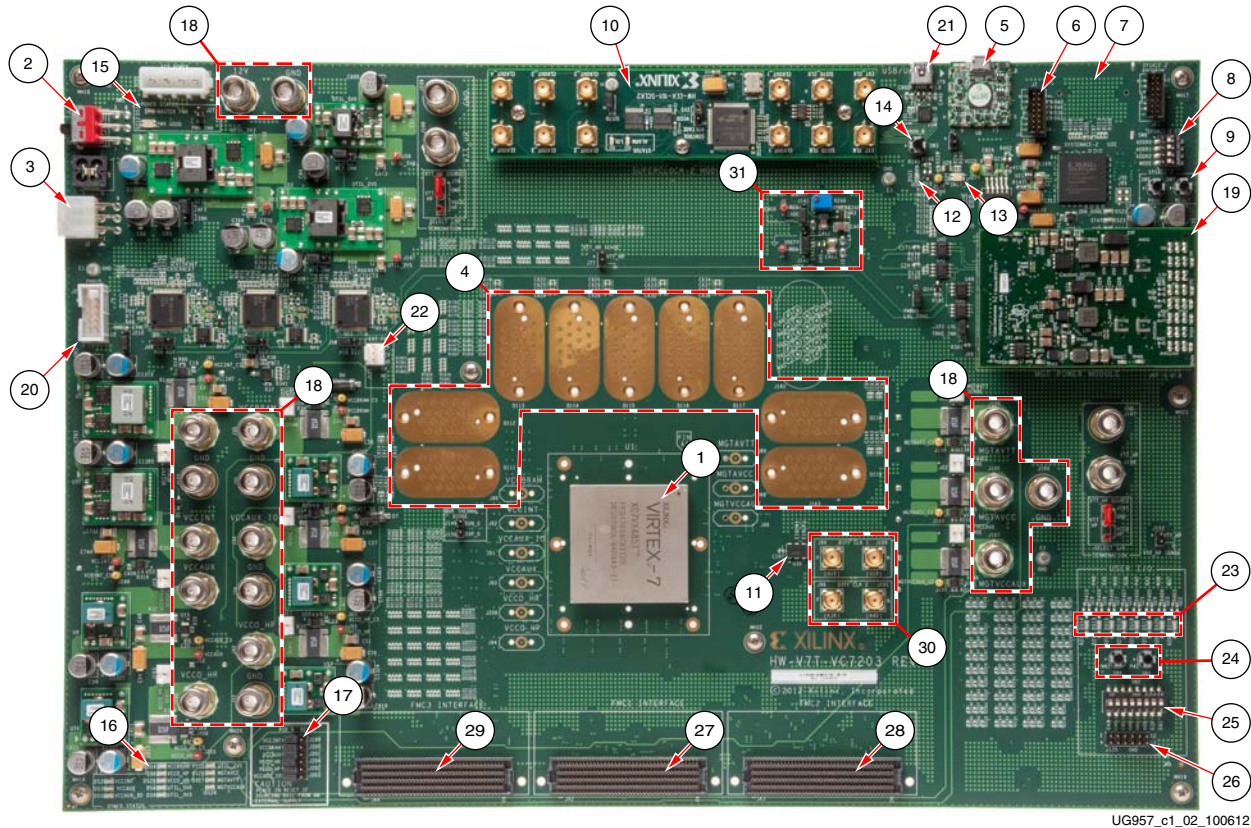

Figure 1-2: VC7203 Board Features. Callouts Listed in Table 1-1
Figure 1-2 shows the VC7203 board described in this user guide. Each numbered feature that is referenced in Figure 1-2 is described in the sections that follow.
Note: Figure 1-2 is for reference only and might not reflect the current revision of the board.
| Figure 1-2 Callout | Reference Designator | Feature Description |
The VC7203 board receives 12V main power through J2 (callout 3, Figure 1-2) using the 12V AC adapter that ships with the board. J2 is a 6-pin (2 x 3), right angle, Mini-Fit connector.
- Jacks J29 (12V) and J28 (ground) (callout 18, Figure 1-2) which can be connected to a bench-top power supply
Main board power is turned on or off using switch SW1 (callout 2, Figure 1-2). When the switch is in the ON position, power is applied to the board and green LED DS11 illuminates (callout 15, Figure 1-2).
Callout 18, Figure 1-2
Each onboard FPGA Logic regulator can be disabled by using its respective Power Regulation jumper (callout 17, Figure 1-2) shown in Table 1-3. A regulator is disabled by moving its Power Regulation jumper from POR_B to RESET.